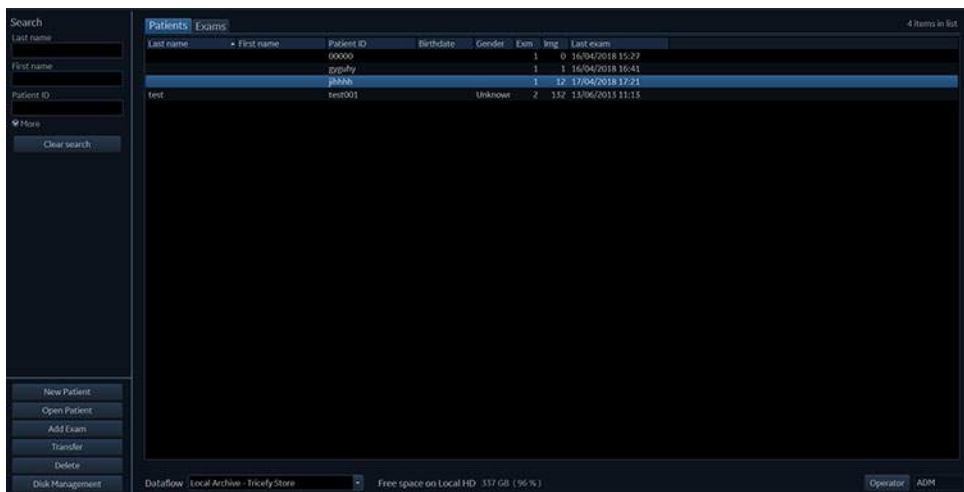
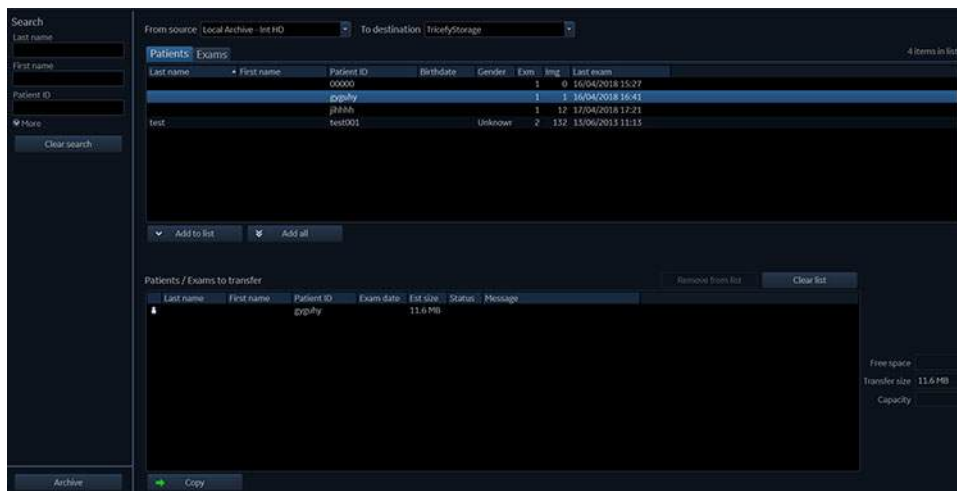

Figure 10-48. The Patients/Exams list
Figure 10-49. The Transfer screen
1. Press **Transfer** from the Patients/Exams list (Figure 10-48). The *Transfer* screen is displayed (Figure 10-49)
4. Press **Copy** (Figure 10-49). The exam data is sent to the Tricefy website (https://tricefy4.com/users/sign_in).